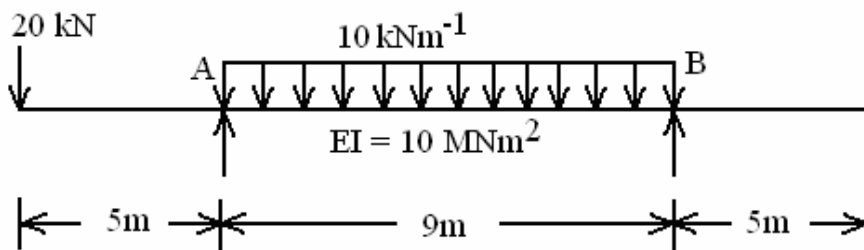

Figure 5
6. Compute the maximum deflections and support rotations in the beams of the following Figure 5 using